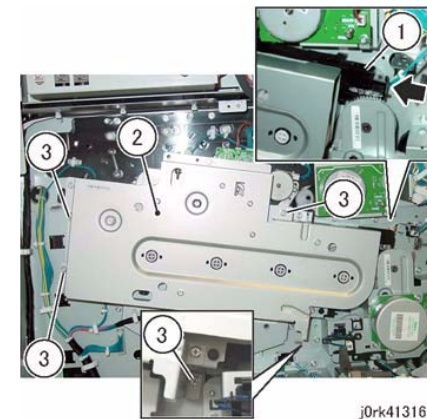

Figure 3 Drum Drive Assy Install
3. Attach the Drum Drive Assembly. (Figure 3)